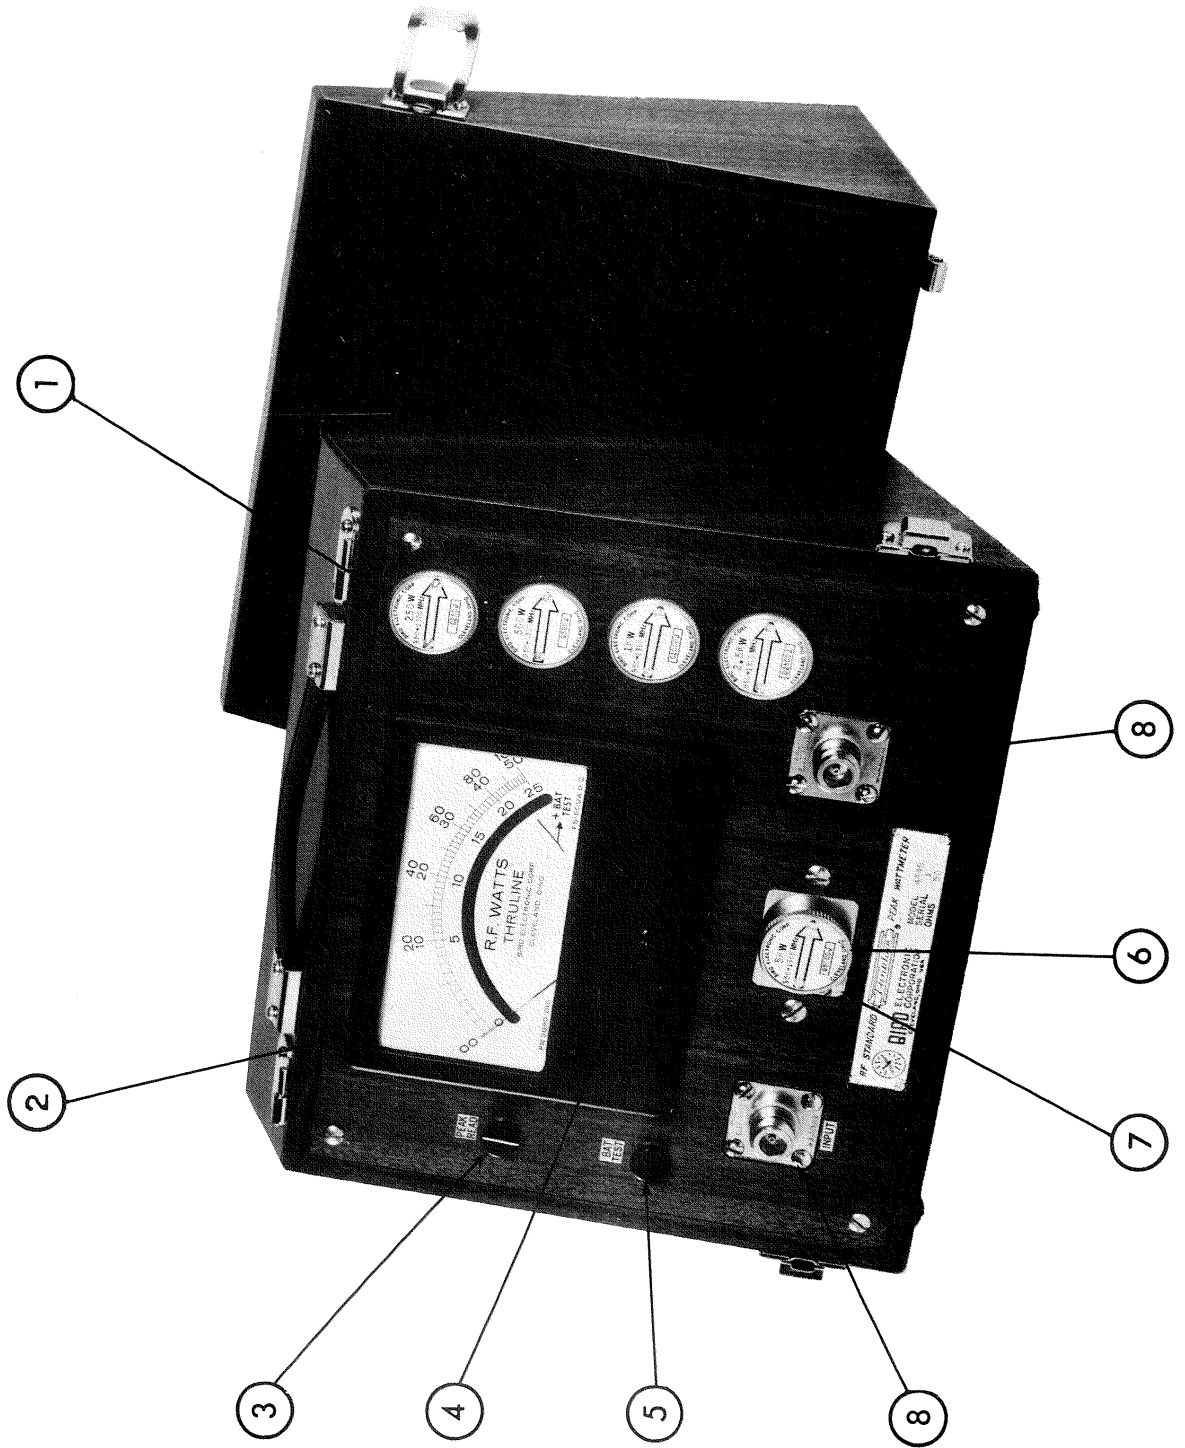

Fig. 3-1
The location, purpose, and use of operating controls and instruments are given in Table III and figure 3-1.
- a. Remove a spare element from its socket (1, figure 3-1)
- b. Release the catch (7) that secures the element in the line section body of the wattmeter; remove the element (6).
- a. Rotate the plug-in element (6, figure 3-1) so that the arrow on the element points in the line direction of the load. Note the reading given on the meter (2). This is the forward power.